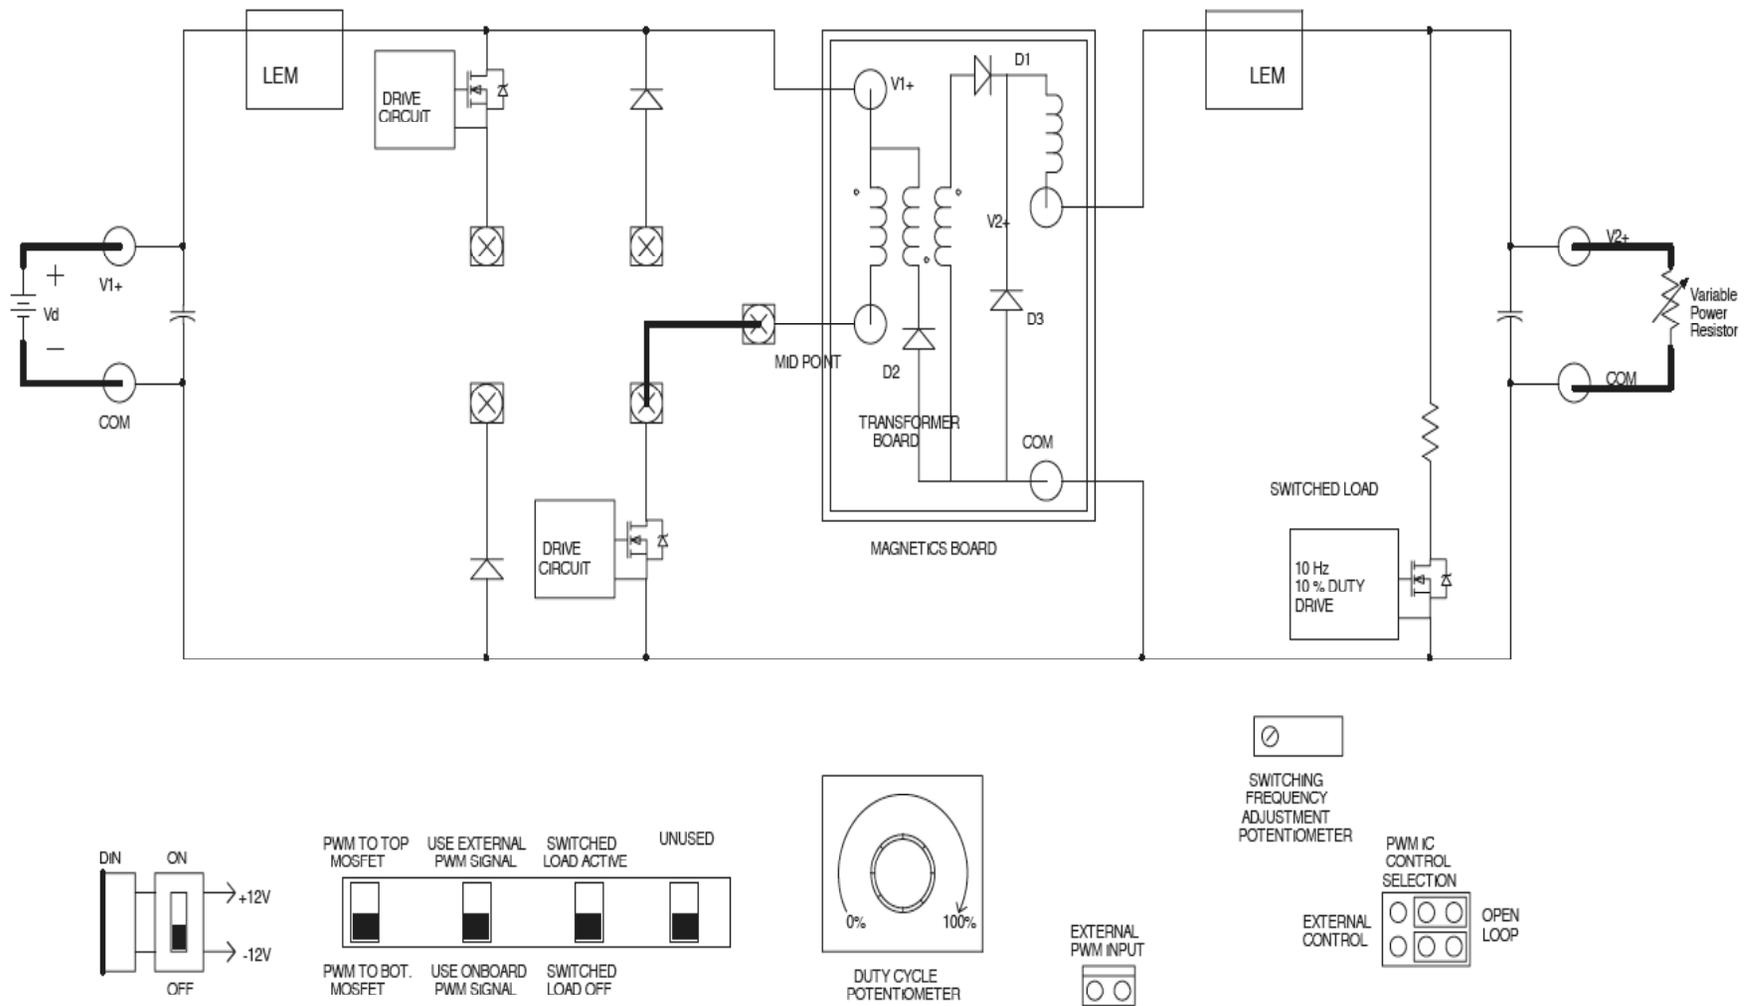

Figure 9.1: Schematic of Forward Converter
Make the connections on the power-pole board as shown in Fig. 9.1 to use the lower MOSFET.
- Check the circuit connections as per Fig. 9.1